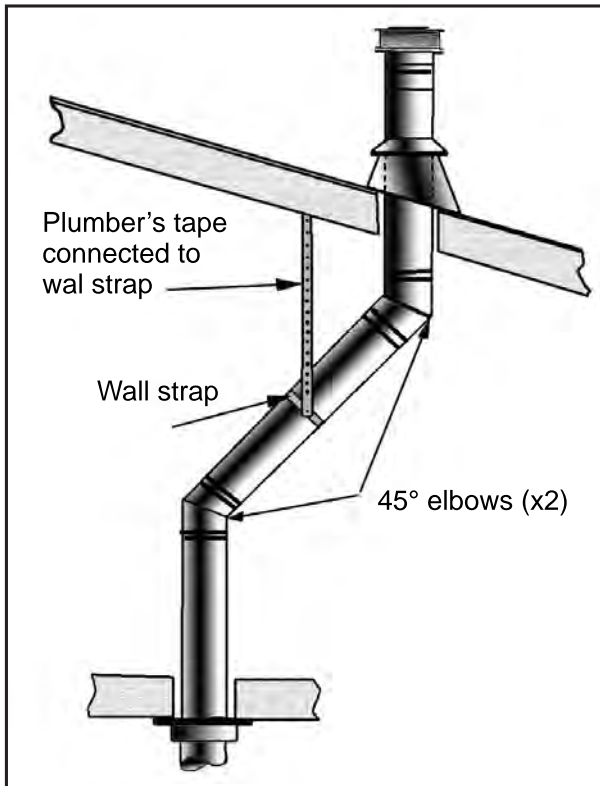
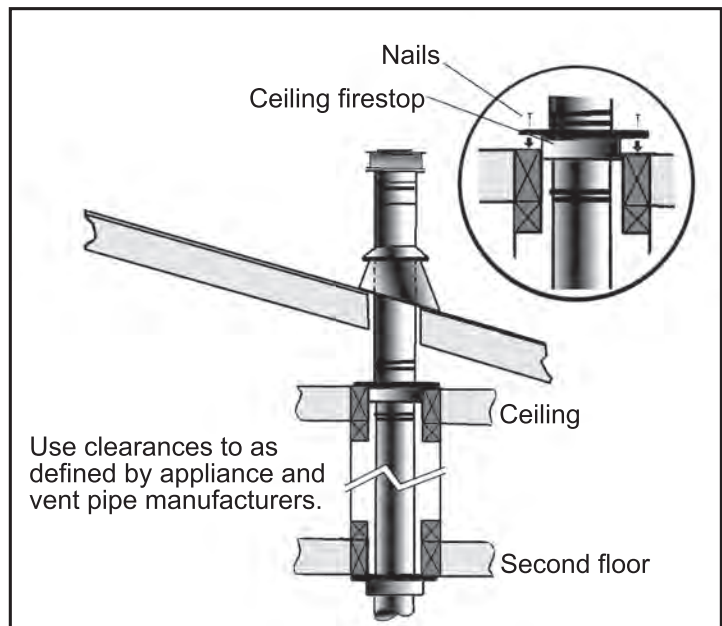

Figure 48: Use of Wall Straps.
Figure 49: Multi-Story Vent Pipe Installation
- (1) If an offset is necessary in the attic to avoid obstructions, it is important to support the vent pipe every **3' (914 mm)**, to avoid excessive stress on the elbows, and possible separation. Wall straps are available for this purpose (see Figure 48).
- (2) When ever possible, use 45° degree elbows instead of 90° degree elbows. The 45° degree elbow offers less restriction to the flow of flue gases and intake air.
- (3) For multi story installations; a ceiling firestop is required at the second floor, and any subsequent floors (see Figure 29). The opening should be framed to **10" (254 mm) x 10" (254 mm)** inside dimensions, in the same manner as shown in Figure 49.